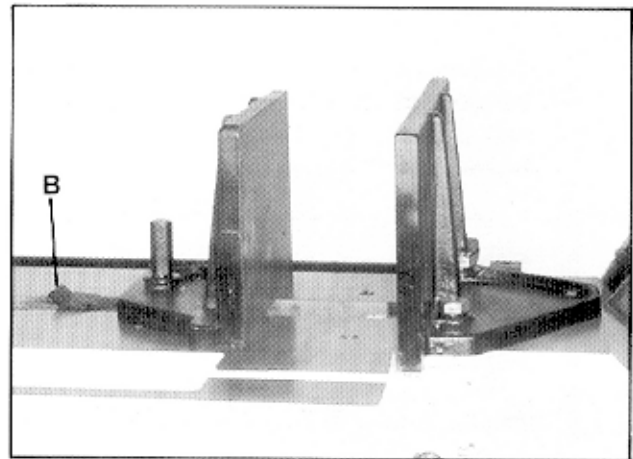

Fig. 16
2. Move rack block (B - Fig. 16) to desired location by sliding along the bed. Place the rack block onto the rack.